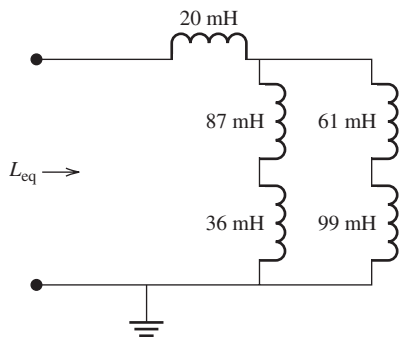

FIGURE P4.48 Circuit for Problem 4.48.
4.48 (A)* (Application) oil pipeline, running from Mosul, Iraq to Beirut, Lebanon is being restored so it can be placed back into service. A new pump is needed to replace a broken one. A large electric motor is needed to drive this pump. The motor has the equivalent circuit as shown in Figure P4.48. Solve for the equivalent inductance.